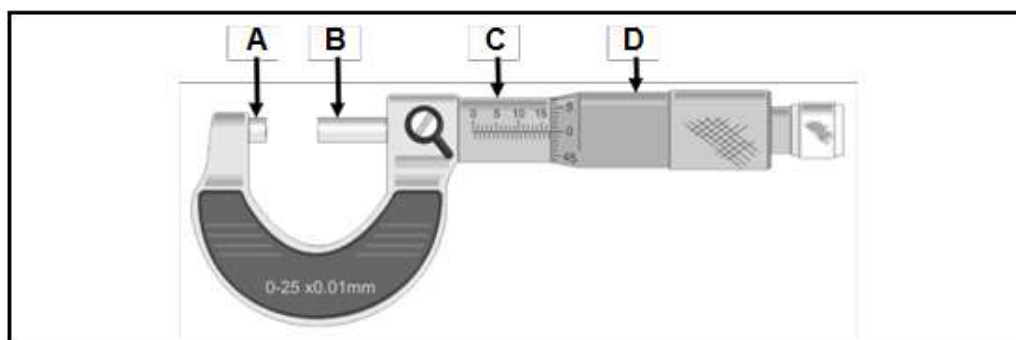

FIGURE 9.1
9.1 FIGURE 9.1 below shows an outside micrometer. Label A–D in the figure.